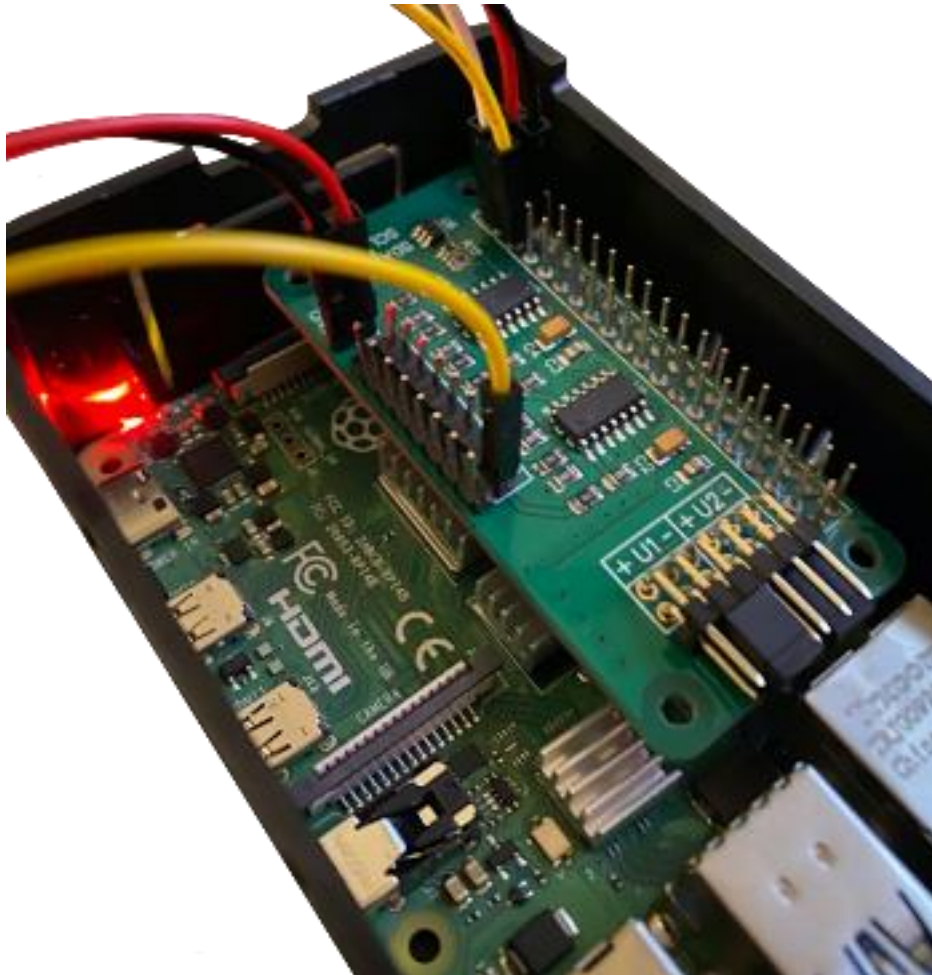

Figure 4: Wiring for sensors when there are two rows of connectors on the ADC Pi Hat.
- Figure 4 shows the completed wiring with the ADC Pi Hat and both sensors attached to the RPi.
- Some PETE-Kits have two rows of connectors on the ADC Pi Hat. In that case, connect the yellow wire from the light sensor to the pin shown in Figure 4.